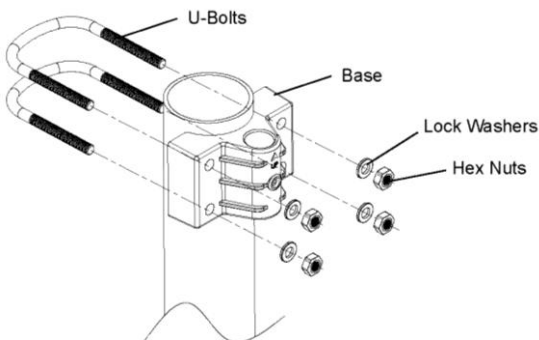

Figure 3
1. Install the base on a pole(1.25inch~2inch) as Figure 3